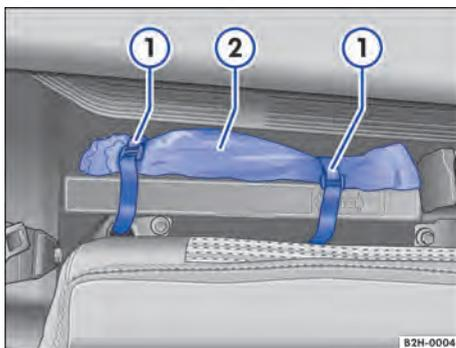

Fig. 155 Behind the rear seat backrest: Bag containing vehicle toolkit.
- Undo the Velcro fasteners → Fig. 155 ① and remove the bag ②.